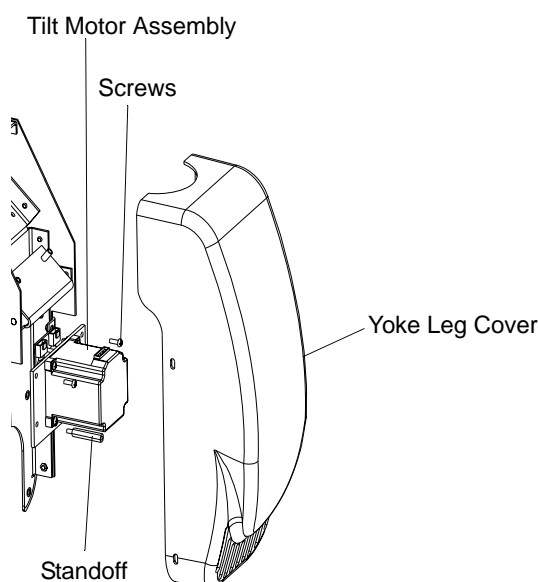

Figure 2-12: Tilt Motor Assembly Replacement
- Step 2. At tilt-side leg, remove yoke leg cover by removing four (two on each side) 6-32×5/16" PTB screws. Figure 2-12. To find tilt-side leg, refer to page 8.